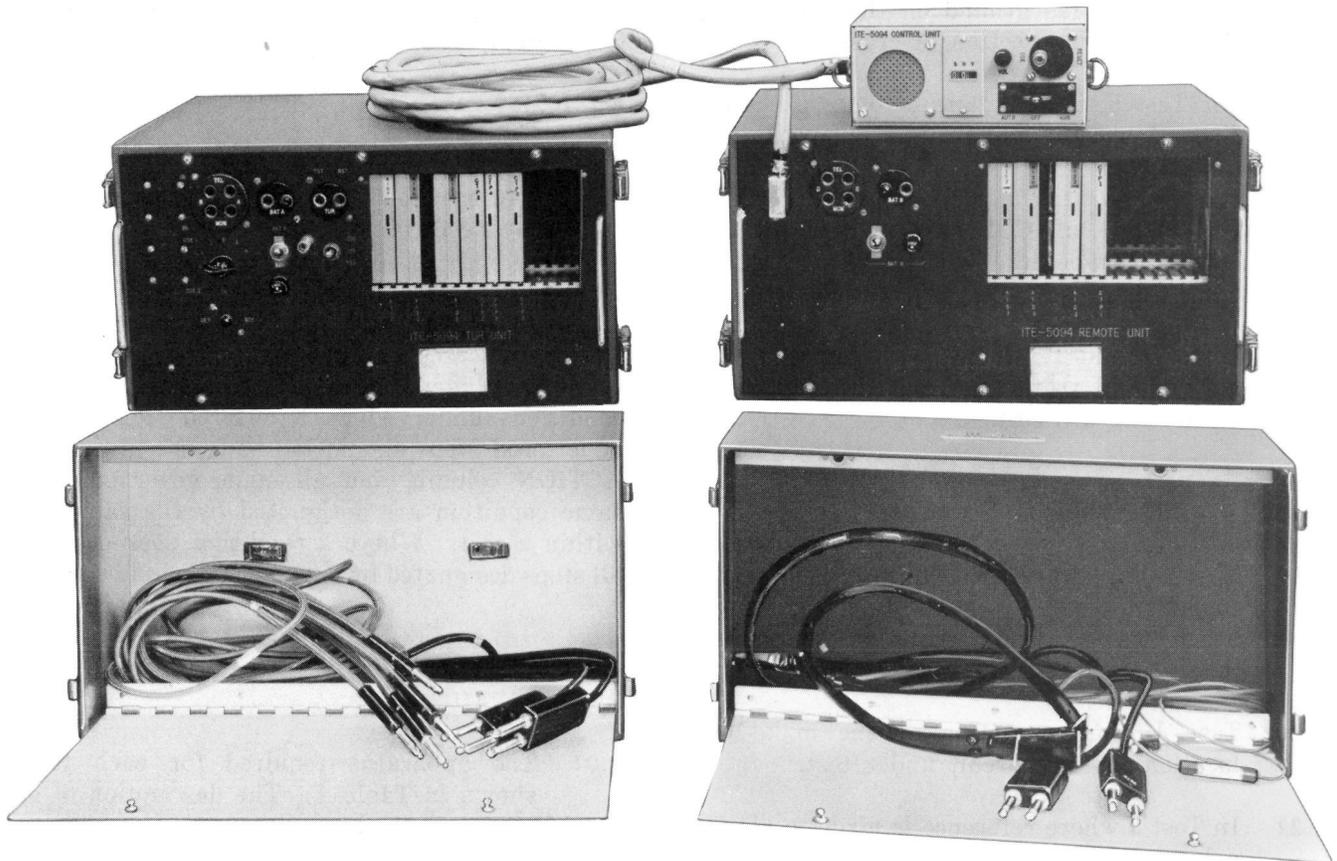

Fig. 1—TUR Connection Verifier Test Set
**1.05** The cords and connections required for the three units of the TUR connection verifier test set is shown in Fig. 1.